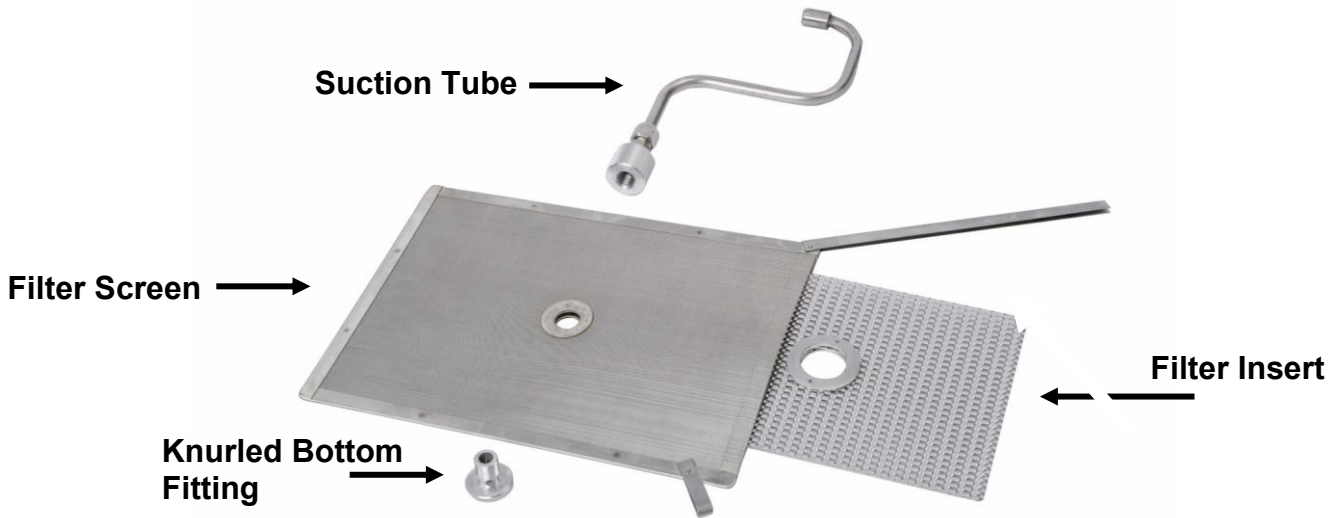

Fig. 1
- Carefully line up the suction tube nozzle so that it mates with the oil receptacle block mounted on the frame of the fryer battery. Close the filter pan drawer. See Figures 1, 2, 3 and 4